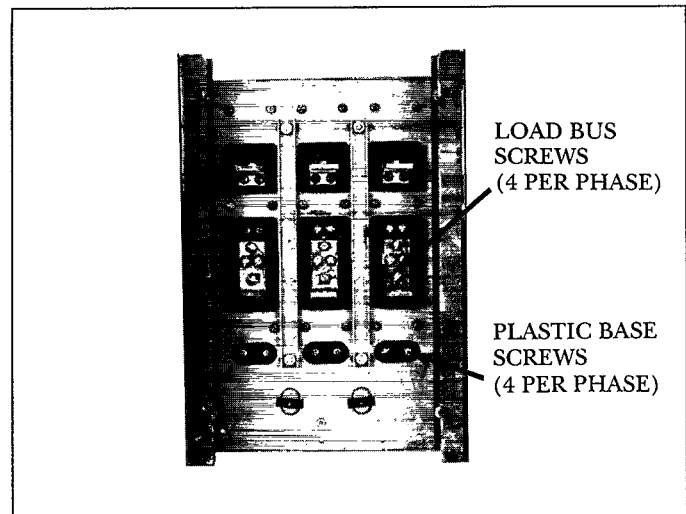

Fig. 5. Load Bus and Plastic Base
From the back breaker frame, remove (4)  $\frac{1}{4}$ -20 x  $\frac{5}{8}$ " screws per phase in the load terminal and save them. Remove the (4)  $\frac{1}{4}$ -20 x  $\frac{5}{8}$ " screws per phase in the plastic base that cradles the load bus (Fig. 5) and discard them.